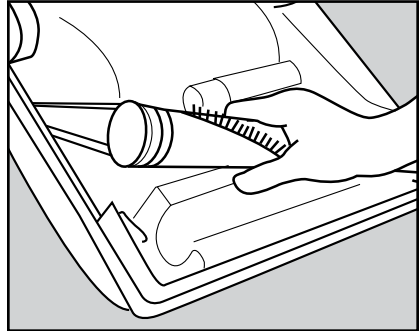

Fig. 2
- Loop the new belt around the motor drive shaft and the agitator pulley (Fig. 2).